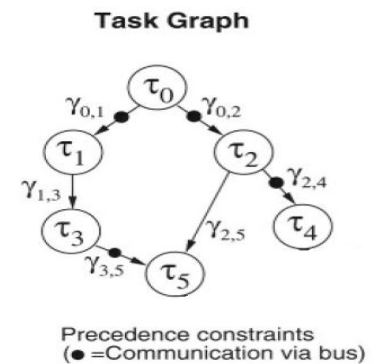

Fig.1.1
- ii. Map the application shown as task graph in **Fig.1.1** to suitable processing elements given in **Table.1.1** to finish the whole execution before 15 msec. (multiple instances of same processing element is not allowed).